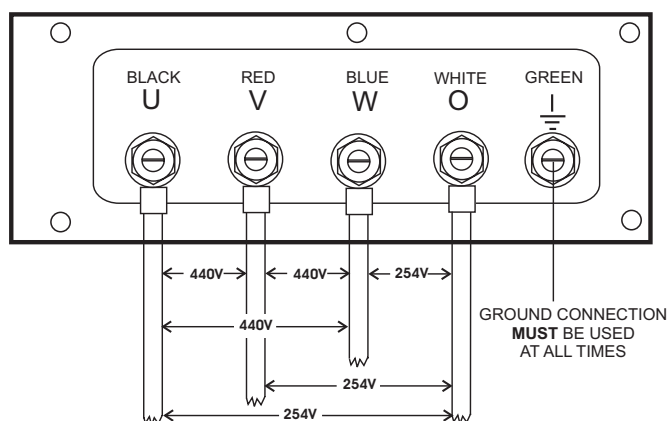

Figure 28. Output Terminal Lugs 3Ø-440/254V Three Phase Connections
2. Connect the load wires to the **Output Terminal Lugs** as shown in Figure 28.